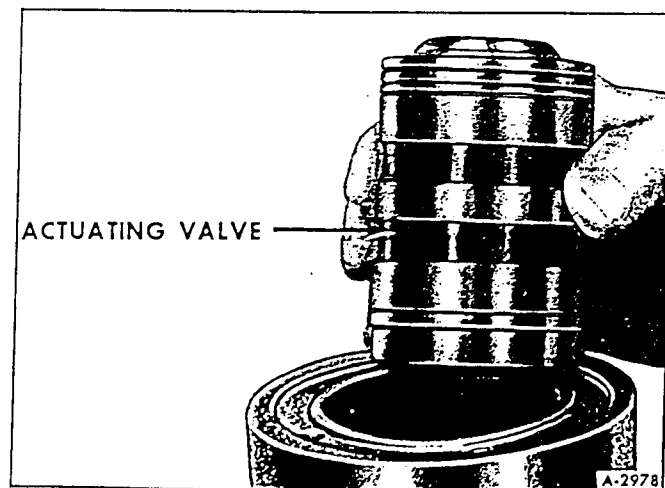

Figure 25 – Removing Actuating Valve
4. Pull actuating valve from piston (fig. 25). DO NOT force valve out of piston.